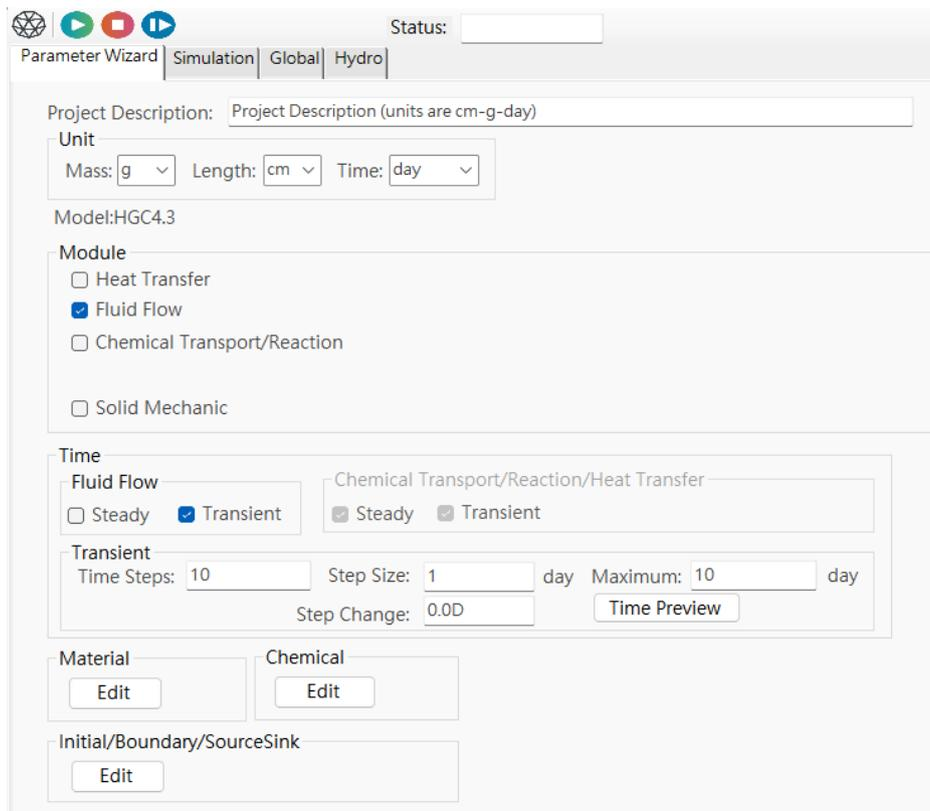
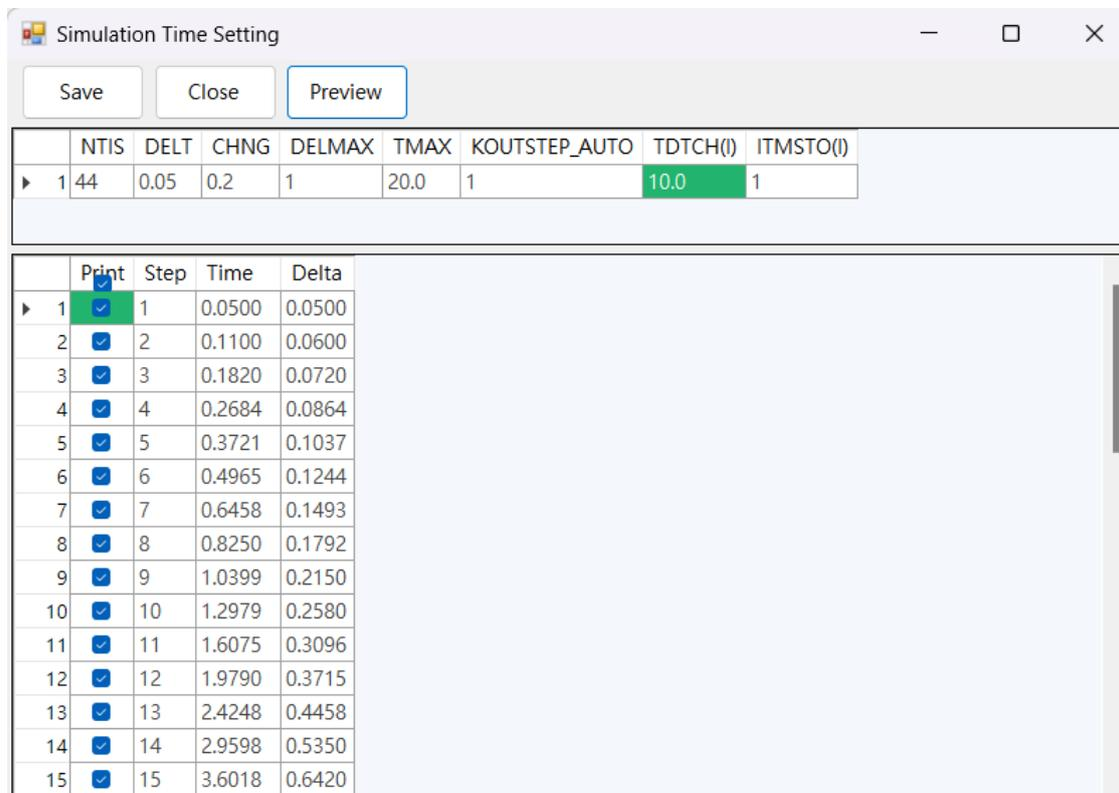

Figure 1.34. Parameter Wizard tab.
Figure 1.35. Simulation Time Setting window.
4. In Figure 1.34, enter the 'Project Description' and 'Unit' in the 'Parameter Wizard' tab. For Benchmark problem 1, the units of cm, g, and day are used, so select the corresponding units. Then, in the Module, select 'Fluid Flow' and choose the 'Transient' fluid flow option.
5. In Benchmark problem 1, the initial time step size is set at 0.05 days. Each subsequent time step is increased by a factor of 1.2 until it reaches a maximum size of 1.0 day. However, because there is a sudden shift in the flux value from 5 cm/day (infiltration) to -5 cm/day (evaporation) imposed on the top surface at $t = 10$ days, the time step size is reset to 0.05 days at that point. From there, it will increase again for each subsequent time step using the same 1.2 multiplier. The maximum time step size will never exceed 1 day, and the simulation will span a total of 20 days. Given these time step parameters, 44 time steps will be required for the simulation. To input the varying time step size, click on the 'Time Preview' button in Figure 1.34. This action will prompt a popup window of 'Simulation Time Setting', as shown in Figure 1.35.
10. After completing the input for 'Material', skip the input for 'Chemical' since Benchmark Problem 1 simulates fluid flow only. Then, proceed to the input for 'Initial/Boundary/SourceSink' by clicking 'Edit' in Figure 1.34.